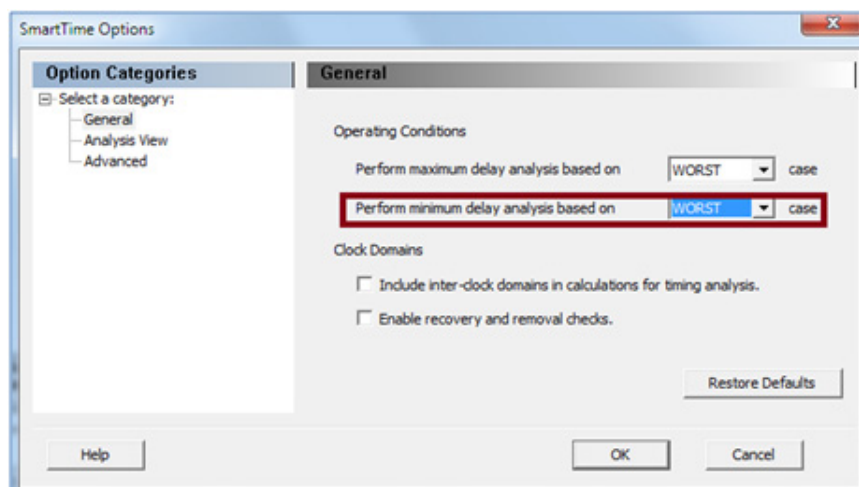

Figure 9 • SmartTime Setting for Worst Case Hold Analysis
- Open the **SmartTime Options** window and set **Perform minimum delay analysis based on to WORST** case conditions, as shown in Figure 9.